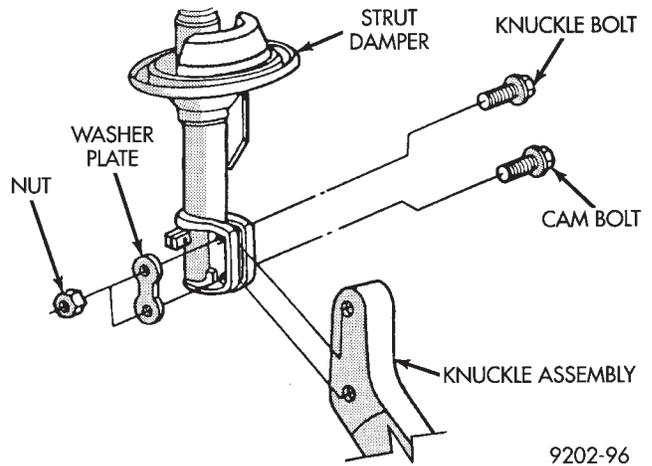

Fig. 9 Remove Or Install Steering Knuckle
(10) Remove the steering knuckle to strut damper attaching bolt and cam bolt (Fig. 9). **Note the location of the cam bolt, it must be installed in the same location when steering knuckle is installed back on strut damper.**
(3) Install the steering knuckle back on the strut damper (Fig. 9). Install the strut damper to steering knuckle attaching bolt, cam bolt, washer plate and nuts. Torque bolts to 100 N•m (75 ft. lbs.) plus 1/4 turn. **Be sure the cam bolt is installed in same location it was removed from.**